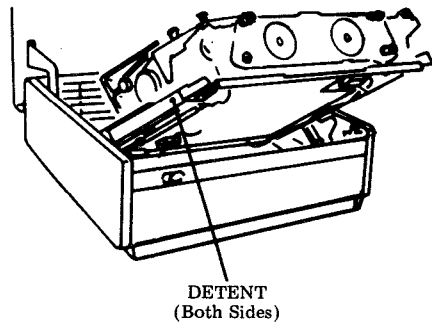

Fig. 68
Step 2 — Slide printer into track (Fig. 68).